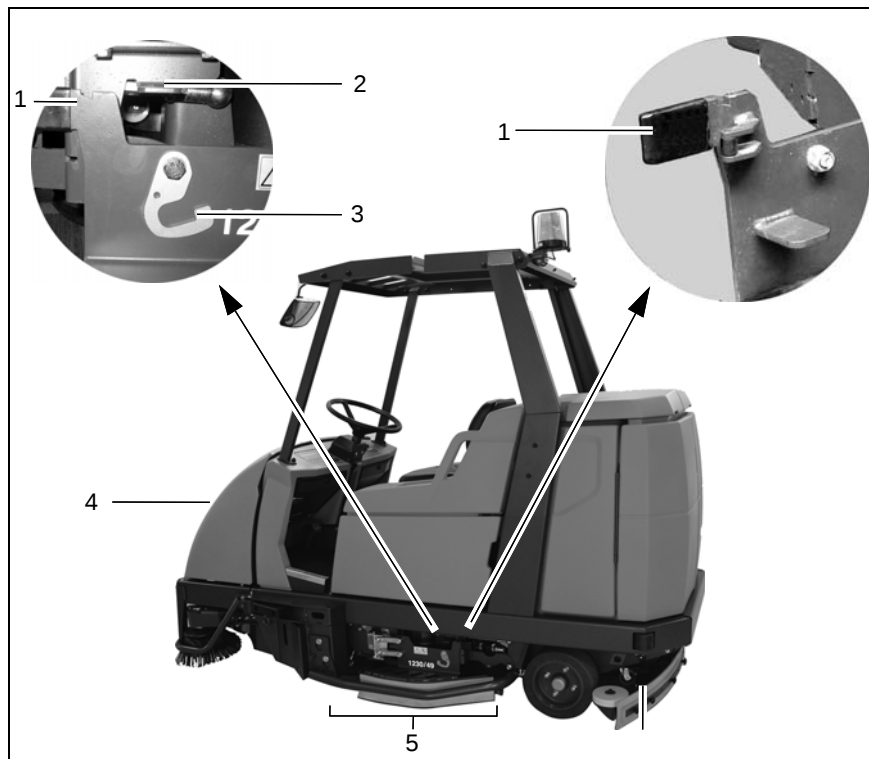

Fig. 15
The pre-sweep/vacuum unit (Fig. 15/4) sweeps and vacuums up dirt in dry areas in front of the scrubbing unit without swirling up dust. In this case, the two side brushes sweep the dirt directly in the track of the cylindrical brush. The side brushes sweep up the dirt from corners and edges so that it is not necessary to drive too close to shelves, walls, machines, etc. and a driving clearance to allow steering can
3.1.2 Scrubbing unit (Fig. 15/5)
(Fig. 15/5)
The deflectors can be raised, if necessary. This is the case for basic cleaning, for example, where the floor only needs to be scrubbed when wet and the solution is not vacuumed up but allowed to soak in instead. To raise the deflector, take hold of the grip (Fig. 15/1), raise it and hook the locking hooks (Fig. 15/3) in the recesses in the angle (Fig. 15/2) above it. Proceed in the same way on the other side of the side of the vehicle.
(Fig. 15/6)